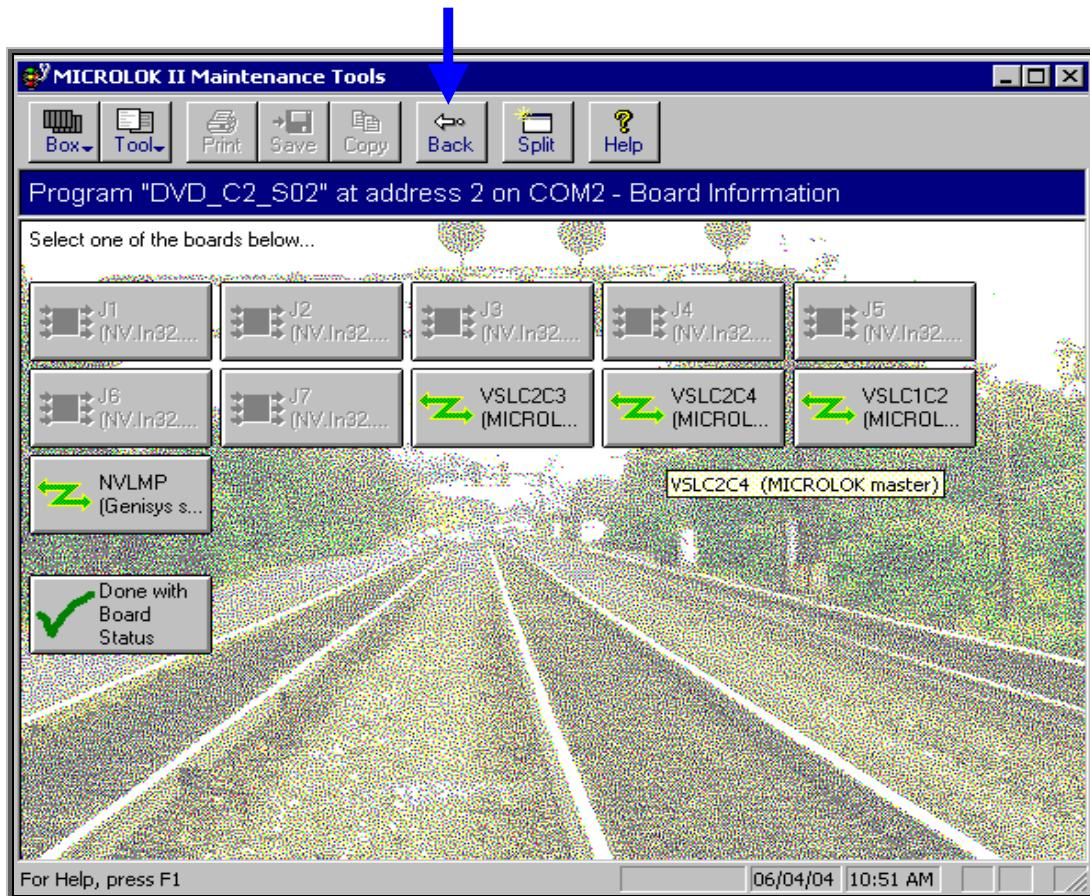

Figure-5.4.2
- ❖ The circuit board and serial communication links selection display appears as shown in Figure-5.4.2.